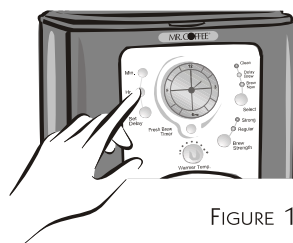

FIGURE 1
2. Press and hold the HOUR and MINUTE buttons until you reach the current time. The AM or PM indicator will light at the bottom of the display (Figure 1 and 2).